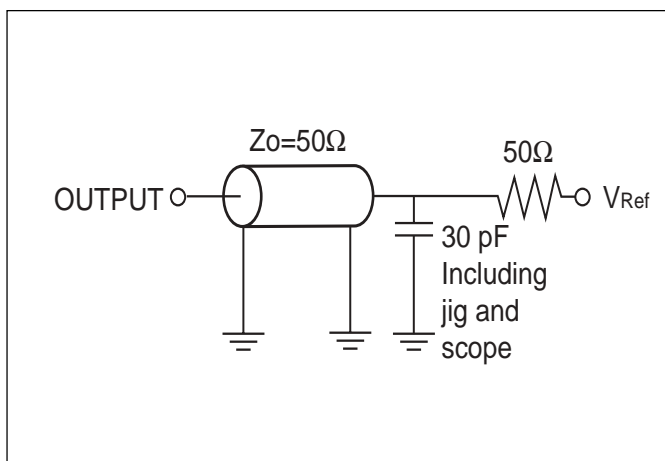

Figure 1a.
Output Load	See Figures 1a and 1b
1. Test conditions assume signal transition times of 1.5 ns or less, timing reference levels of 1.25V, input pulse levels of 0 to 2.50V and output loading specified in Figure 1a.
1. Test conditions for IS64LV6416AL assume signal transition times of 1.5ns or less, timing reference levels of 1.25V, input pulse levels of 0 to 2.5V and output loading specified in Figure 1a.